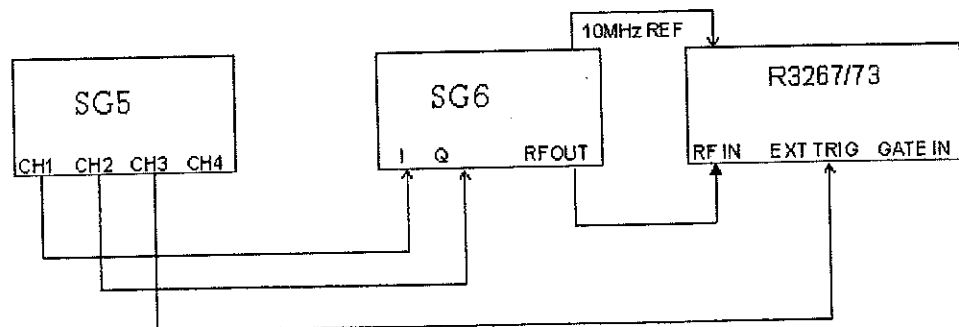

Figure 3-24 Setup of MS Measurement Test
1. Connect equipment as shown in Figure 3-24.